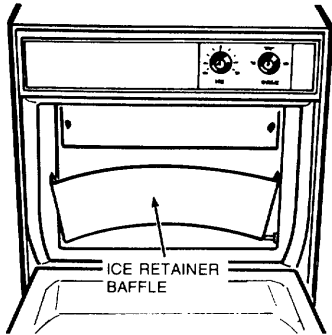

FIGURE 6
2. Remove ice retainer baffle by flexing it (Figure 6) and then slide it off the studs.